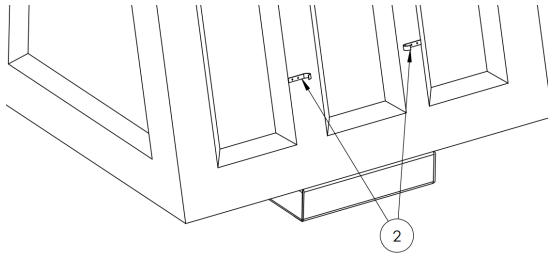

Figure 4.2
Bolt or weld rear J-Hooks (2) as shown (Figure 4.2) centered on rear tailgate.